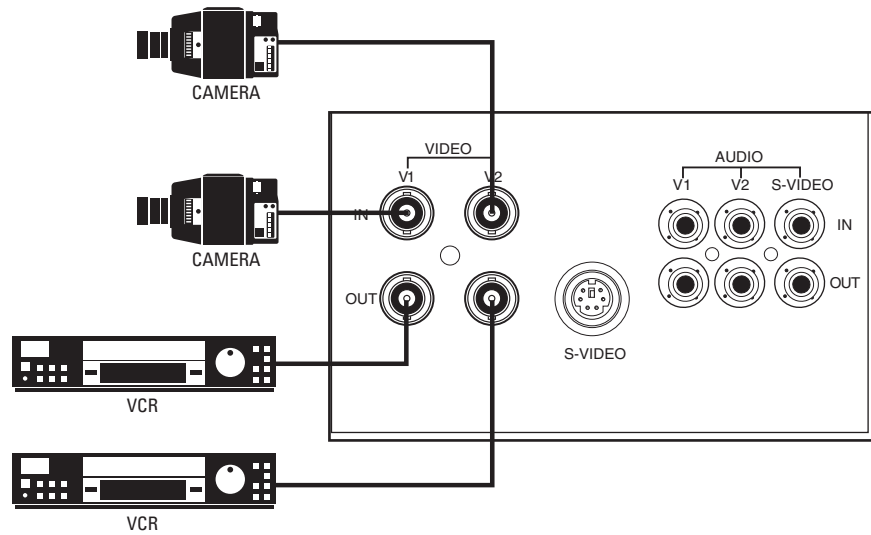

Figure 1. Looping Operation – One Monitor with External Video Equipment
1. Make all equipment connections as required for your installation. Refer to Figures 1 through 3 for samples of installation methods.